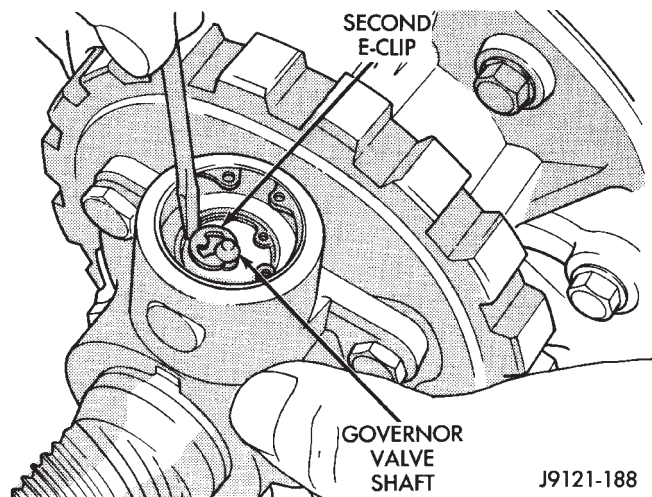

Fig. 139 Securing Governor Valve Shaft With New E-Clip
(7) Rotate output shaft until opposite end of governor valve shaft is facing upward. Then install remaining E-clip on governor valve shaft (Fig. 139). **Be very sure both E-clips are firmly seated on shaft.**